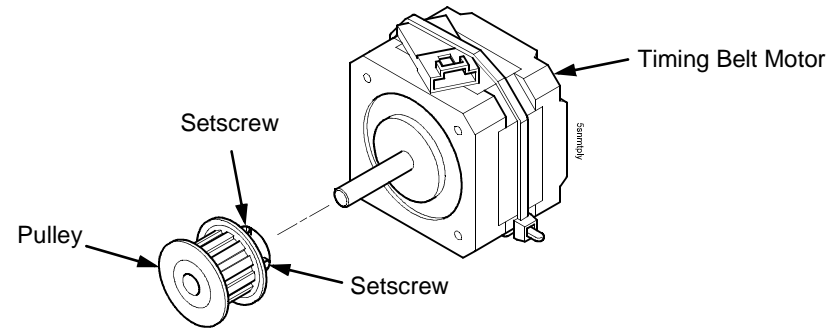

Figure 102. This figure shows how to remove the pulley from the timing belt motor.
5. Loosen the two setscrews on the motor pulley and remove the pulley. Unplug the motor cable, if necessary. (Figure 102.)